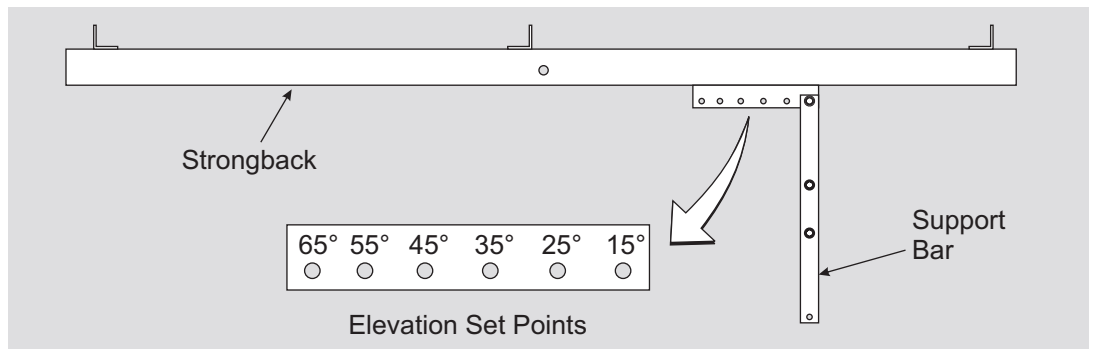

Figure 12-2: Setting the Tilt Angle
- B. Tilt the rack to the desired elevation angle (15°, 25°, 35°, 45°, 55° or 65°) and re-attach the Support Bar to the Strongback, placing the 3/8" hardware in the appropriate hole matching the desired elevation. **Torque at 32-34 ft.-lbs.** (See Figure 12-2)